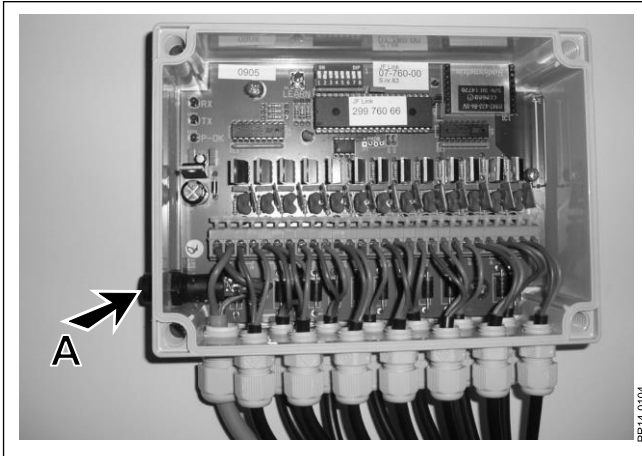

Fig. 1.1
Fig. 1.1 The valve box is mounted on the machine and connected to the solenoid valves that control the hydraulic components. The valve box must be connected to 12V and is secured by a fuse (A) of maximum 10A.